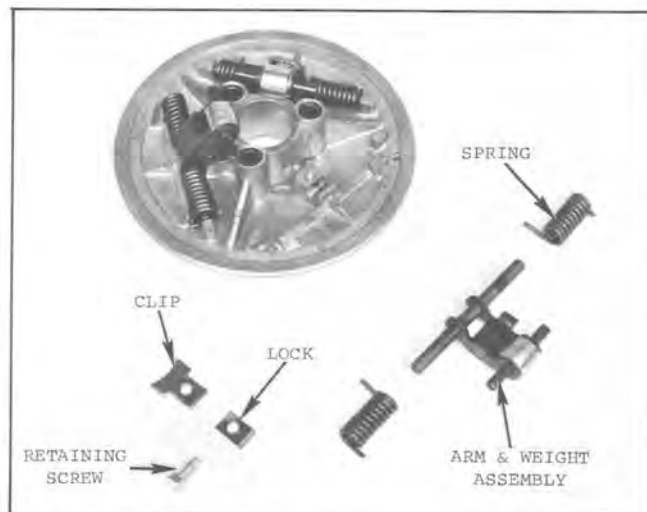

Fig. 63 — Face and Weight Assembly — Identification of Parts
- d. Disassemble the face and weight assembly as shown in Fig. 63.